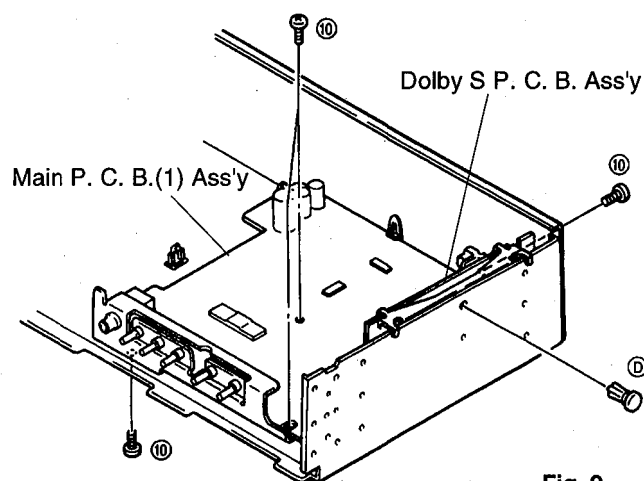

Fig. 9
- a. Remove 4 screws ( ⑩ ) and 1 plastic rivet ( ④ ) in Fig. 9.